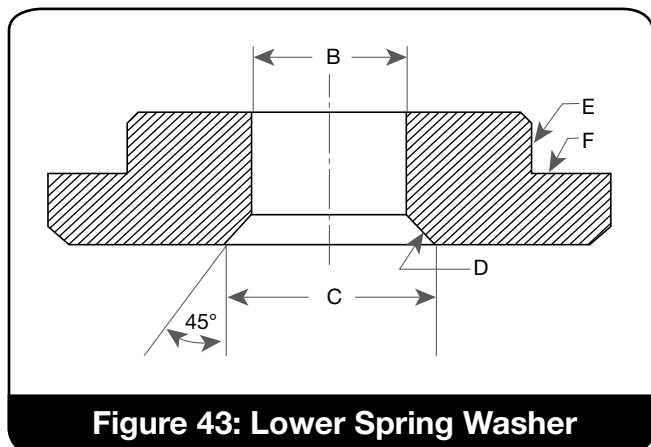

Figure 43: Lower Spring Washer
1. Remove the eductor tube (40) from the base (1) by selecting a drill bit approximately .016" (0.40 mm) smaller in diameter than the outside diameter of the eductor tube. Drill into the bore of the eductor tube where the tubing is attached to the base. This will reduce the tube wall thickness to the extent that it can easily be collapsed for removal. The bellows fange will cover the hole in the guide surface which will remain after the tube is removed.
2. Machine the existing lower spring washer (17) (see Figure 43 and Table 20).